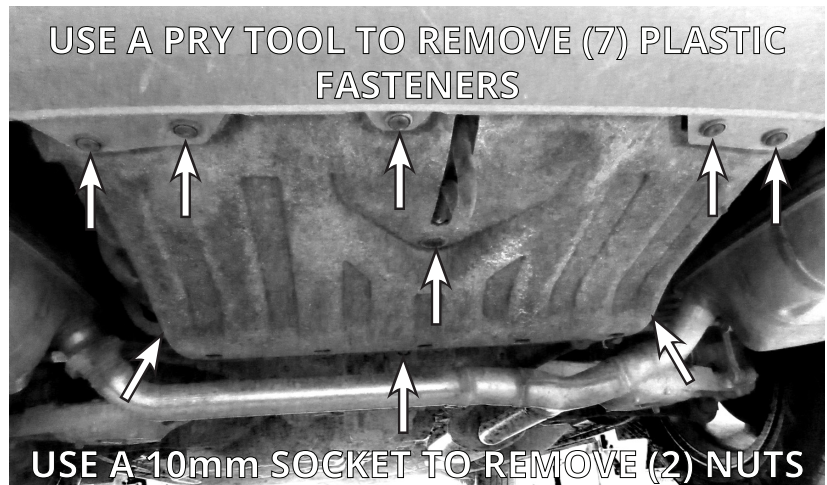

FIGURE A1: VIEW UNDER THE REAR OF THE VEHICLE
1. Under the rear of the vehicle, use a pry tool to remove seven plastic fasteners from the rock guard, see Figure A1. Use a 10mm socket to remove two nuts from the forward corners of the rock guard. Set the rock guard aside.